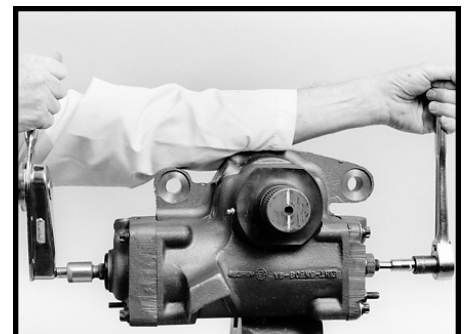

Figure 165
5. Adjust worm shaft/input shaft adjusting screw (39), a 5/16 inch Allen wrench or screwdriver required, to increase maximum worm shaft/input shaft (17) torque noted in procedure 4 by 10 to 15 in. lbs. (1.1 to 1.7 N m) Torque sealing nut (38) to 70-80 ft. lbs. (95-108 N m) using a 1-1/16 inch socket and check worm shaft/input shaft torque again. Readjust if worm shaft/input shaft torque exceeds 35 in. lbs. (4.0 N m). SEE FIGURE 165.